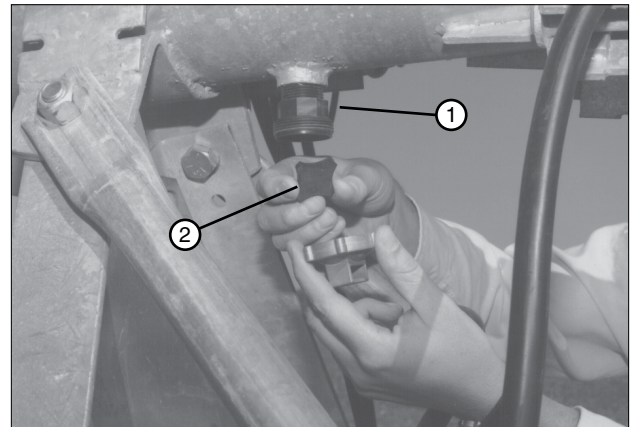

Figure 39-1 1. Pipe Drain
2. Remove the pipe drains at each tower and clean sand and foreign particles from these drains. Turn the rubber drain seal over when reinstalling. See Figure 39-1.